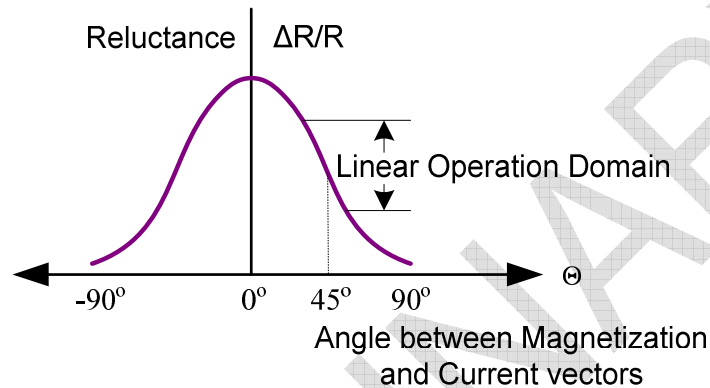

Figure 3: Reluctance Increment
film, the magnetization vector angle changes relative to the current flowing through the permalloy film, which in turn changes the film's resistance. This resistance variation is directly proportional to the angle (Θ) between the magnetization vector (M) and current vector (I). A linear operating domain exists between the magnetization vector and the current vector as shown in Figure 3. MEMSIC's AMR sensor is optimally designed to take advantage of this domain region.